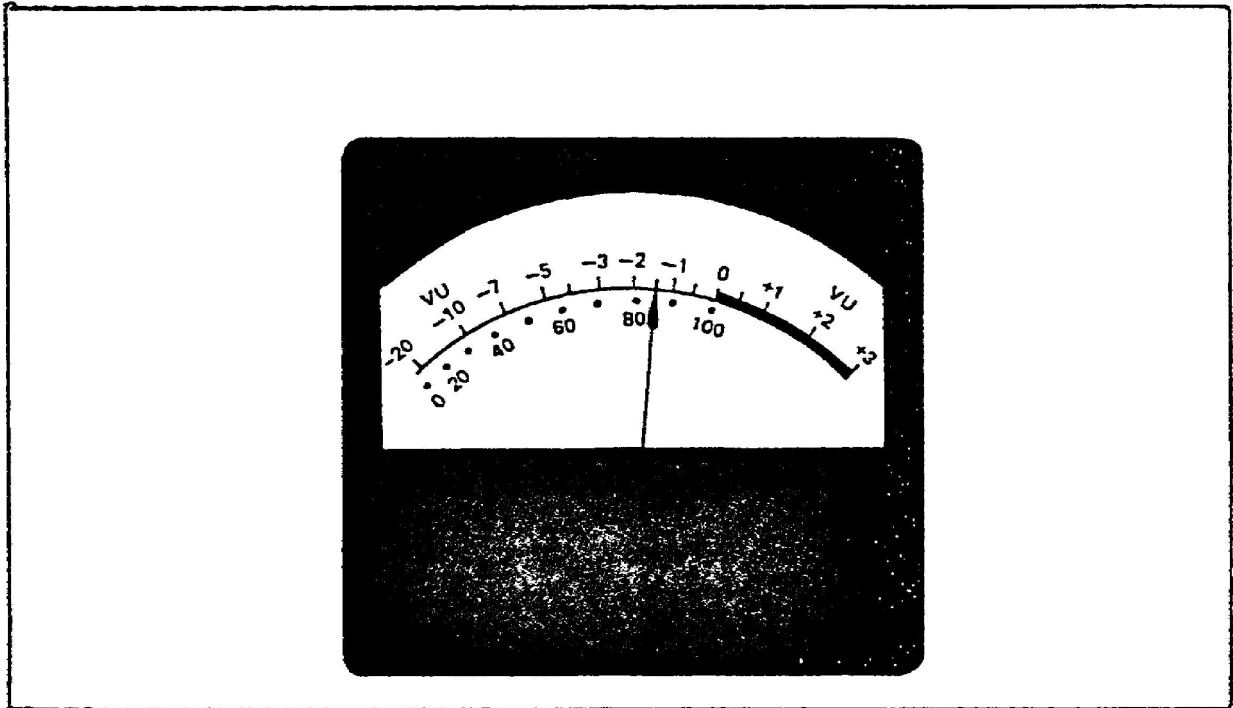

Figure 2-16
Above the individual faders/pots or controls, right in front of the operator, is a large meter(s) called the "volume unit" or VU meter. The volume meter is an essential tool in dealing with audio levels or signals. It is impossible to determine how loud a sound is, or how loud we think the sound is without a VU meter to tell us. VU meters are expensive and delicate. All audio levels are set with the VU meter. Look at the VU meter (Figure 2-16). Notice there are two scales. The upper scale is read in volume units, from -20 to 0 and then +3. The zero mark is a representation of "decibels or db" with zero db equal to 100 percent modulation or audio without distortion. The newer VU meters have 0 to 100 on the top scale and the decibels on the bottom scale. Beyond zero, the scale is marked in red. Sound level readings in this area, should only be permitted momentarily because these readings indicate volume unit (VU) distortion in the audio signal.